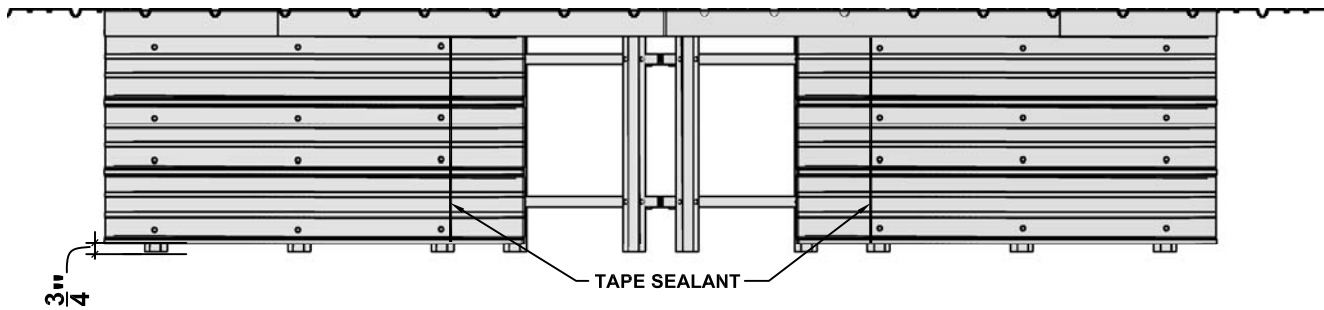

FIGURE 17
1. Place the End Roof Sheets back on the Hat Purlins. Slide the sheet toward the wall panel allowing $\frac{3}{4}$ " from the end of the Hat Purlins per **Figure 17**. Align the bottom of the panel with the end of the Transition Flashing. Square panel with canopy framing. Attach Roof Panel to lowest Hat Purlin with Structural Screws per **Figure 17**.
2. Place a strip of Tape Sealant (M-061-00) across the top of the End Roof Sheets (C-042-00) just below the bottom edge of the second Hat Purlin per **Figure 17**.